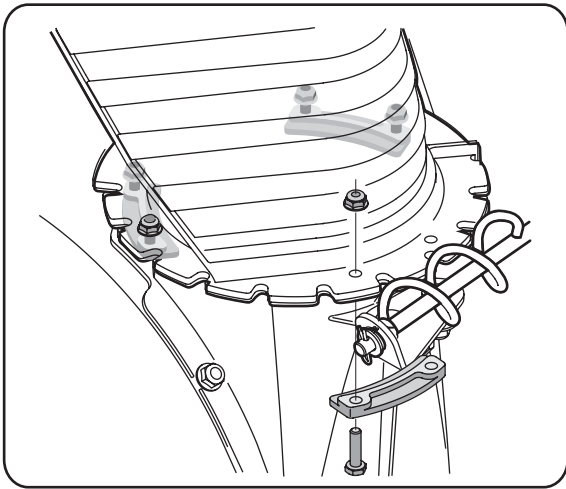

Figure 4
- Remove locknuts and screws securing one of the flange keepers to the chute assembly. See Figure 4.